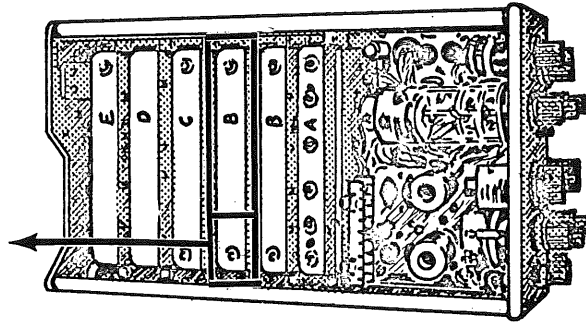

Figure 3-41
2. While rotating the CH B SMOOTHING control, adjust the Smoothing Balance, R335 - See Figure 3-41, for less than 1 cm of trace shift.